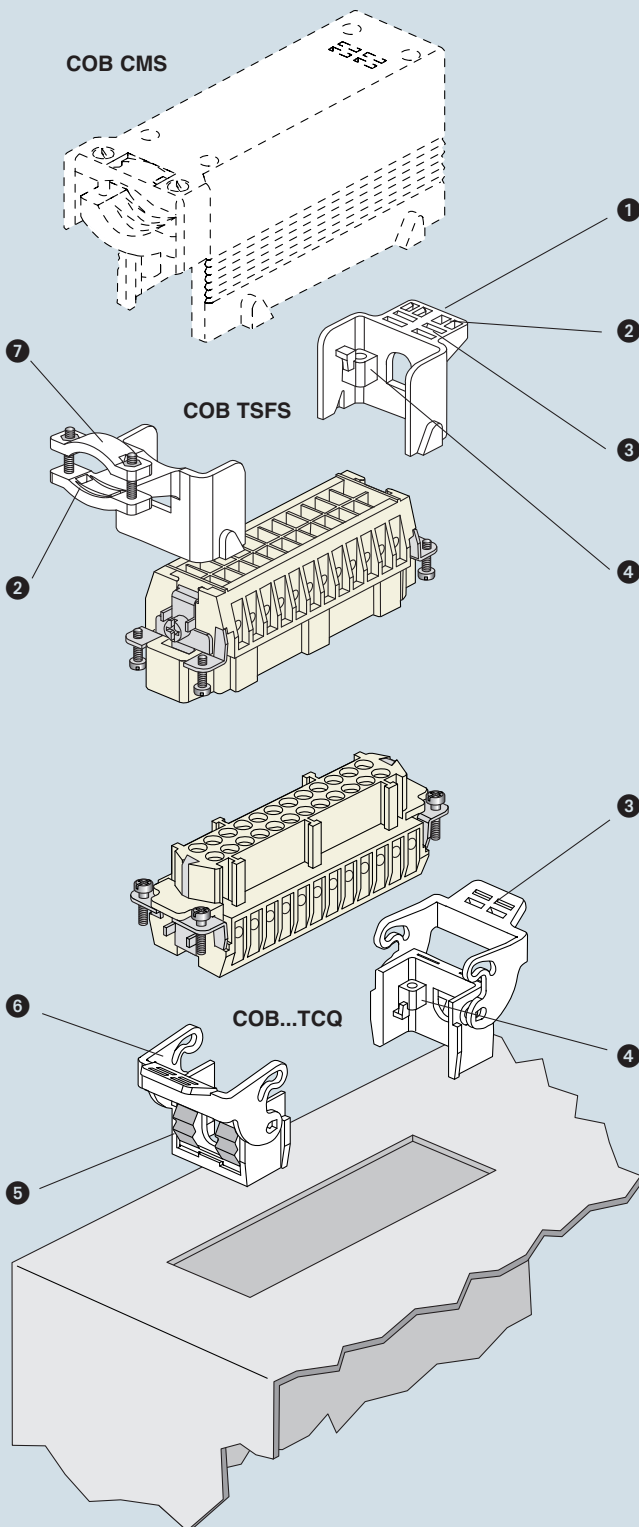

Figure 1:
- on panels with window snap fastening device (**Figure 1**)